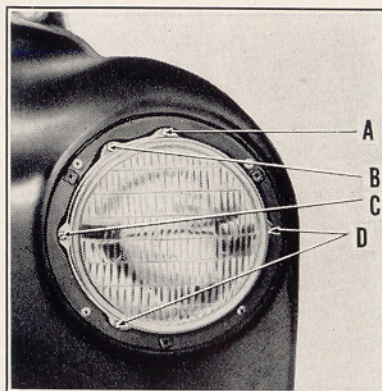

Figure 45
2. Take out three screws (B) and (D) (Figure 45) and remove the retaining ring. DO NOT disturb the aiming screws (A) and (C).